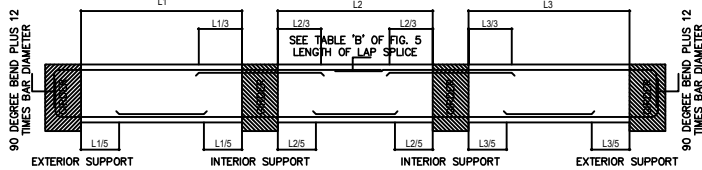
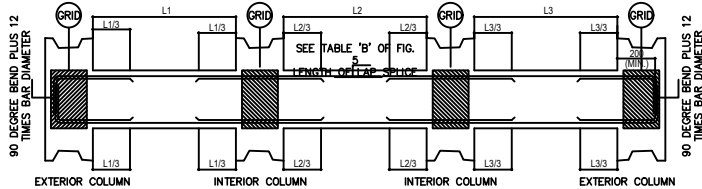

FIG. 4. TYPICAL DETAIL OF INTERMEDIATE BEAM
FIG. 5. TYPICAL DETAIL OF GIRDER POST
- B. TYPICAL BAR BENDING AND CUTTING DETAILS FOR INTERMEDIATE BEAMS AND GIRDERS ARE SHOWN IN FIGURE 4 AND FIGURE 5 RESPECTIVELY. MAIN REINFORCING BARS SHALL HAVE A STANDARD HOOK OF 90 DEGREE BEND PLUS 12 TIMES THE DIAMETER OF THE BAR EXTENSION AT ITS FREE END.